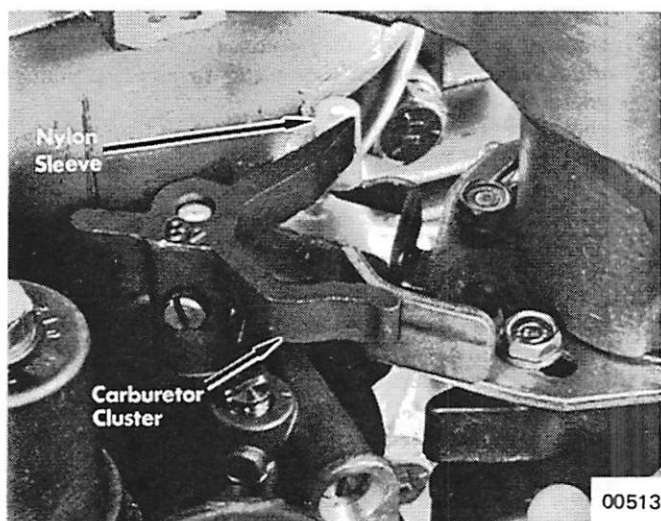

Figure 4. Second Throttle Pickup Pin Adjustment
15. Bend second throttle pickup pin (with nylon sleeve) against carburetor cluster (.000" to .015" [0.381mm] gap). (Figure 4)